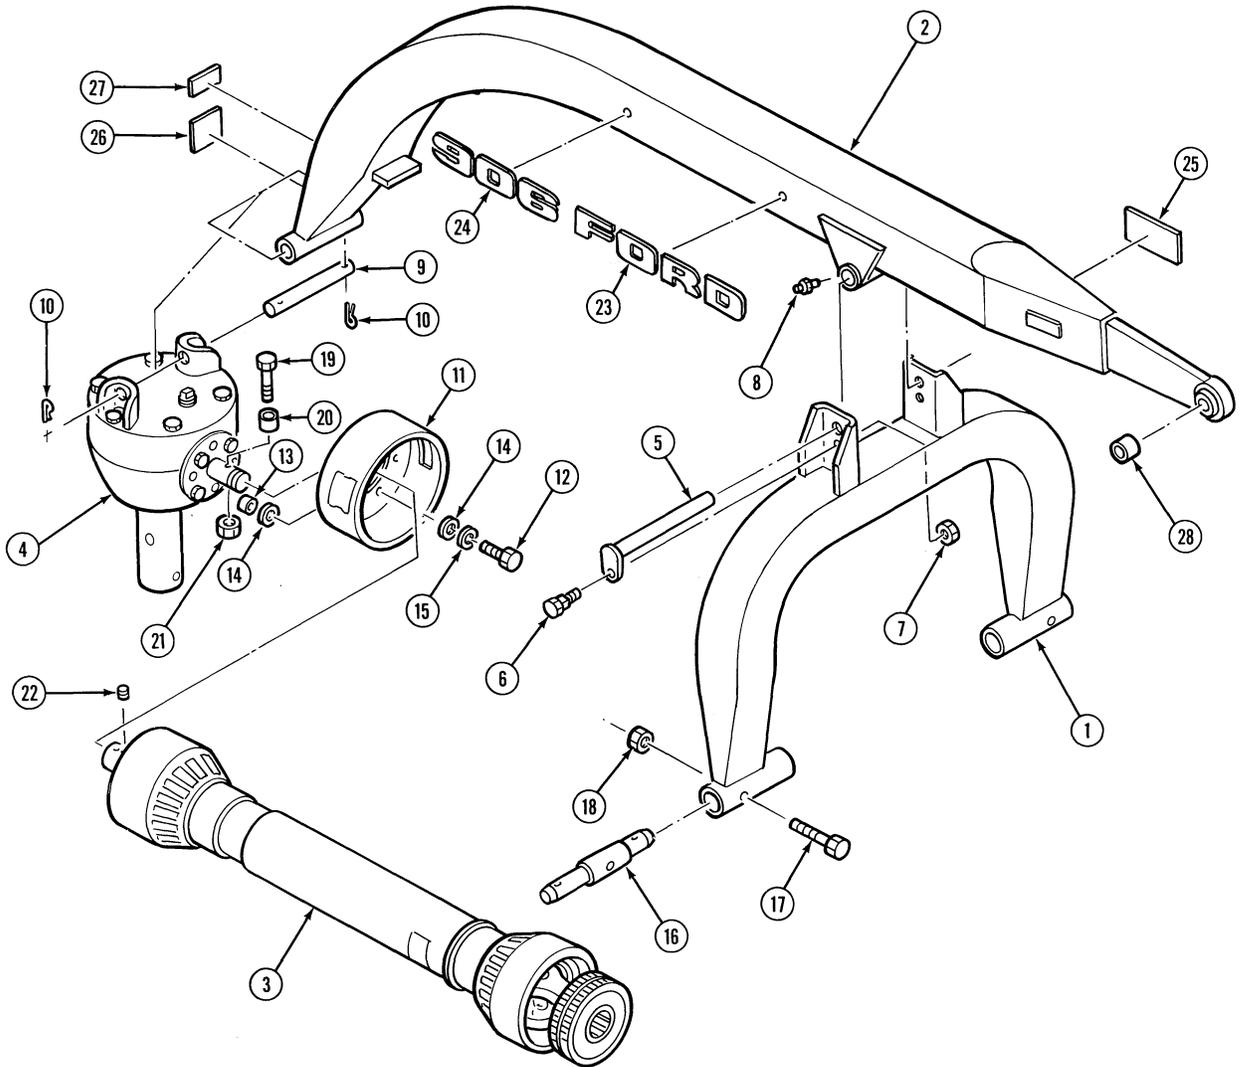

Figure 1
Refer to Figure 1
1. For the medium and heavy duty post hole diggers, install the proper hitch pins (16) into the mast (1), and secure the pins to the mast with 3/8'' x 2-1/4'' cap screws (17) and locknuts (18), Figure 1.
2. Attach the mast (1), to the boom (2), using the boom pivot pin (5), 3/8'' x 1'' shoulder bolt (6), and locknut (7). Install 1/4'' straight grease fitting (8), into the boom pivot bushing on the heavy duty model.
3. Attach the gearbox to the boom using the attaching pin and 3/16'' x 1-1/2'' cotter pins, a new cotter pin (10), is provided.
4. For the heavy duty post hole digger, insert the sleeve (20), into the hole in the input shaft before sliding the shaft into the yoke of PTO shaft (3).
5. For the light and medium duty post hole diggers, slide the yoke of PTO shaft (3) onto the input shaft of the gearbox (4), aligning the hole for the socket head setscrew with the groove (2) in the gearbox shaft. Install the socket head setscrew (22) in the yoke: turn it until it bottoms out, then back it out one quarter turn. Grease the yoke and check to be sure the yoke will rotate freely, but will not